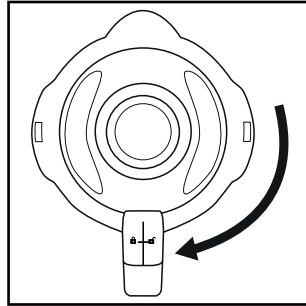

Fig. 2
- 4) Press the lid **2** firmly down onto the blender **3**. Close the lid **2** by turning it clockwise to position **4** until it audibly engages (see Fig. 2). Ensure that the pouring spout on the blender **3** is closed. The motor cannot start until the lid **2** is fitted flush.